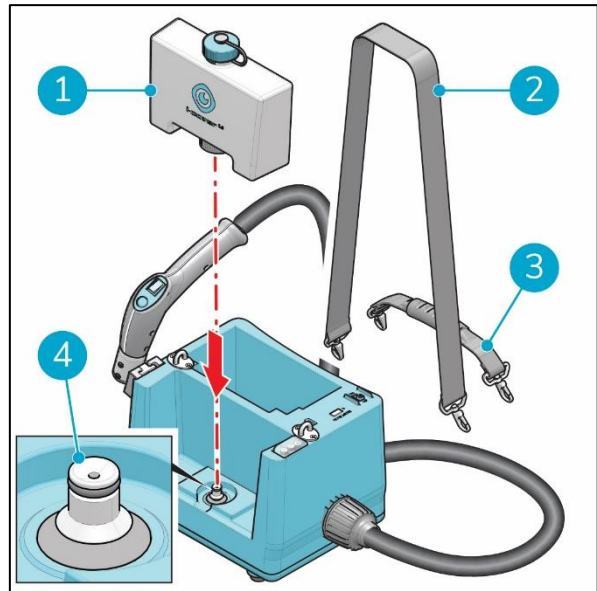

Figure 8
2. Place the disinfectant tank (Figure 8, pos 1) on the i-cover 1.0. Press it downwards to make sure that the valve is secured onto the valve stem in the i-cover 1.0 body (Figure 8, pos 4).
3. Attach the carrying handle (Figure 8, pos 3) or shoulder belt (Figure 8, pos 2) with the spring hooks, depending on your preference.